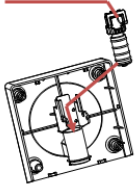

Figure 1
① Feed port upper cover	⑤ Handle tip
② Feed port base	⑥ Sealing ring
③ Feed port plug	⑦ Feed port sealing ring
④ Handle	⑧ Feed port cover
1. Insert ③ into ② as shown in Figure 1.
Follow the steps from Figure 1 to Figure 8 in reverse order.
Loosen the four counter-clockwise locking nuts and remove the handle assembly as shown in Figure 1. Check that the inside of the drum is clean, remove the mixing fan blade, wipe it with a damp cloth and re-insert the mixing blade after cleaning as shown in Figure 2. Fit the handle and handle assembly as shown in Figure 3. Tighten the nut clockwise as shown in Figure 4.